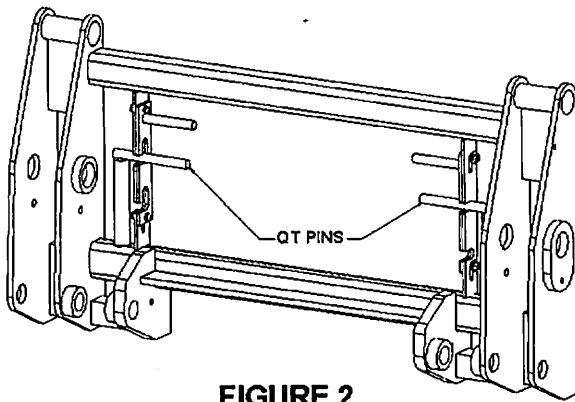

FIGURE 2.
STEP 2 Tilt the bucket down slowly so that the cam block on the loader aligns with the cam pocket on the mountings. See Figure 2. Slowly drive the tractor forward so that the cam blocks slide into the cam pockets and the front tube slides into the yoke tube on the front of the loader.
STEP 2 Gently lower the loader until the stand legs rest on the ground. Tilt the bucket forward until the cutting edge is also resting on the ground. See Figure 2.
2. Rotate QT pins out of the lower notches, raise, and then rotate them into the upper notches of the sliding latches as shown in Figure 2.
2. When the QT frame is flat against the attachment, raise the sliding latches as shown in Figure 2.